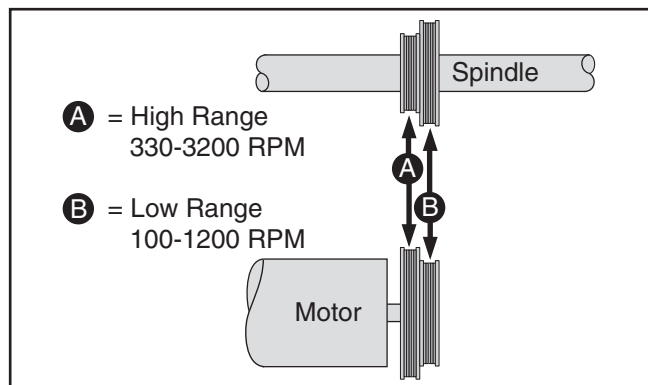

Figure 34. Speed range belt positions.
- Reach into the belt access cavity and roll the belt onto the desired set of pulleys, as shown in **Figure 34**.